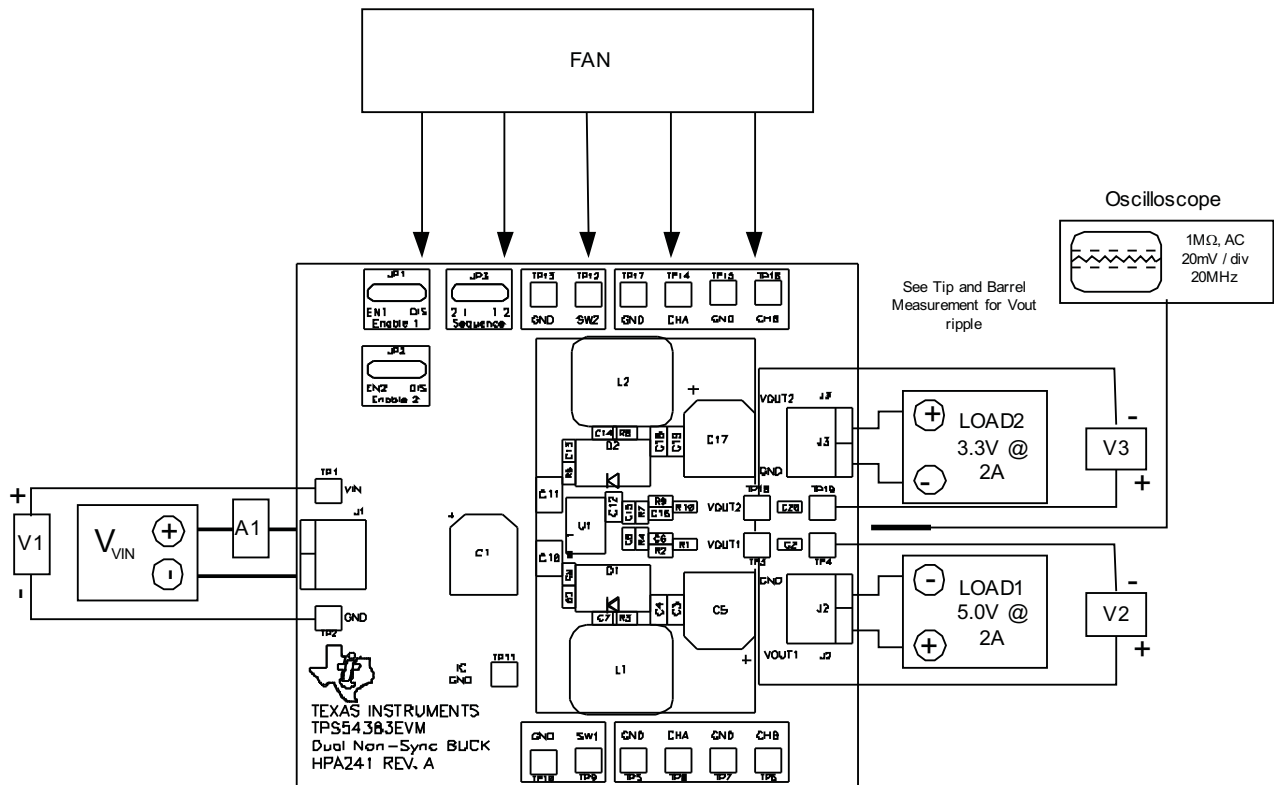

Figure 2. TPS54383EVM Recommended Test Set-Up
Shown in Figure 2 is the basic test set up recommended to evaluate the TPS54383EVM. Please note that although the return for J1, J2 and JP3 are the same system ground, the connections should remain separate as shown in Figure 2
2. Prior to connecting the dc input source, VIN, it is advisable to limit the source current from VIN to 5.0 A maximum. Make sure VIN is initially set to 0 V and connected as shown in Figure 2.
3. Connect the ammeter A1 (0-5 A range) between VIN and J1 as shown in Figure 2.
4. Connect voltmeter V1 to TP1 and TP2 as shown in Figure 2.
5. Connect LOAD1 to J2 as shown in Figure 2. Set LOAD1 to constant current mode to sink 0 A_{DC} before VIN is applied.
6. Connect voltmeter, V2 across TP3 and TP4 as shown in Figure 2.
7. Connect LOAD2 to J3 as shown in Figure 2. Set LOAD2 to constant current mode to sink 0 A_{DC} before VIN is applied.
8. Connect voltmeter, V3 across TP18 and TP19 as shown in Figure 2.
9. Place fan as shown in Figure 2 and turn on, making sure air is flowing across the EVM.